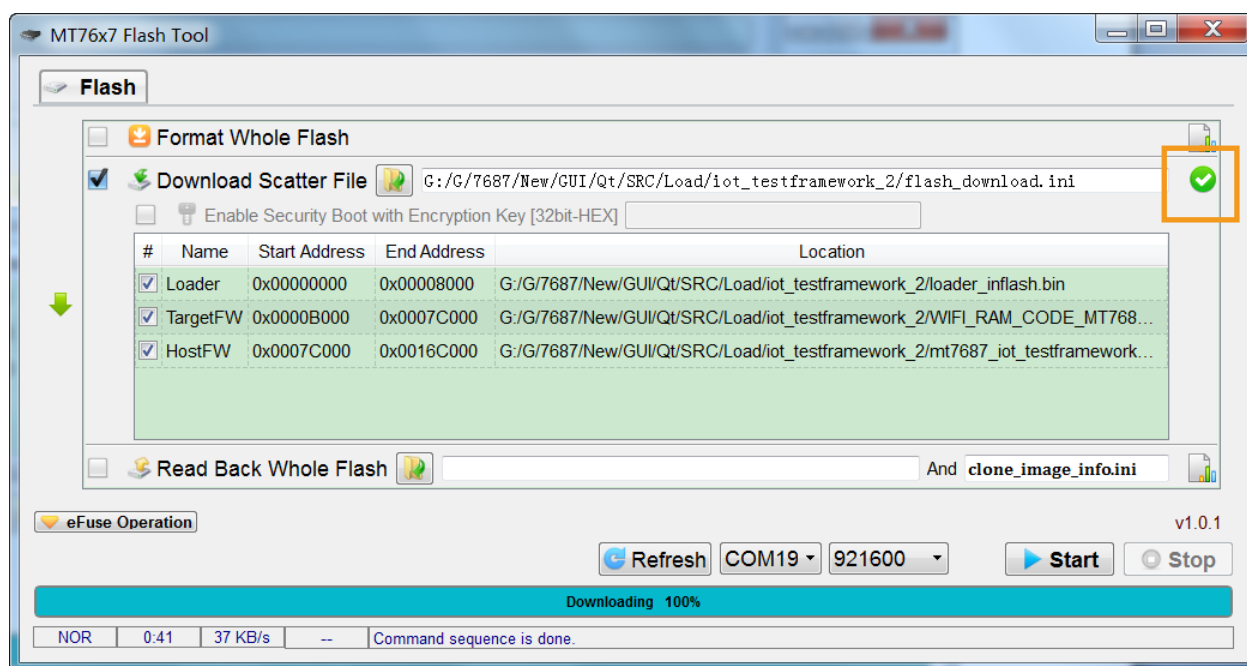

Figure 9. Downloading the image is successfully complete
- 4) Click **Start** to execute the command. When downloading is complete, the result status is shown as in Figure 9.